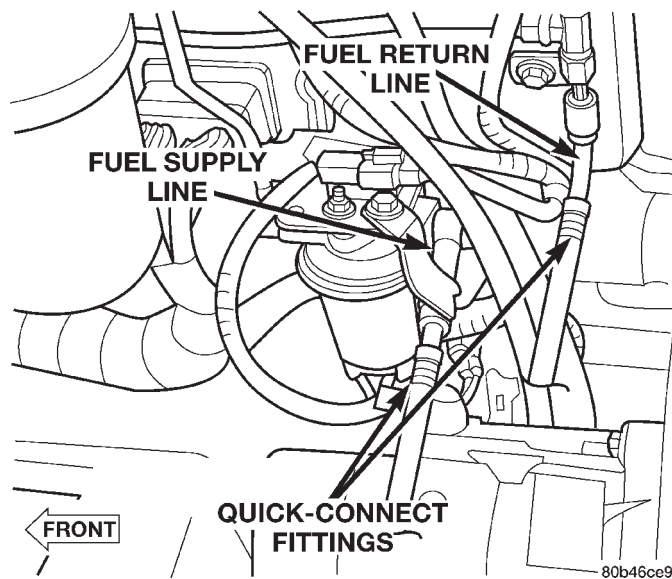

Fig. 22 Fuel Return and Supply Line Quick-Connect Locations
(10) Locate and disconnect fuel supply line quick-connect fitting at left-rear of engine (Fig. 22). After disconnecting line, plastic clip will remain attached to metal fuel line at engine. Carefully remove clip from metal line. Snap same clip into fuel supply hose.
(11) Install Special Rubber Adapter Hose Tool 6631 (3/8") into ends of disconnected fuel supply line.
(12) Install transducer from PEP module to brass "T" fitting on tool 6631.
(13) Hook up DRB scan tool to transducer.
(14) Start engine and record vacuum reading with engine speed at high-idle (high-idle means engine speed is at 100 percent throttle and no load). The fuel restriction test **MUST** be done with engine speed at high-idle.
(15) If vacuum reading is **less** than 6 in/hg. (0–152 mm hg.), test is OK. If vacuum reading is **higher** than 6 in/hg. (152 mm hg.), restriction exists in fuel supply line or in fuel tank module. Check fuel supply line for damage, dents or kinking. If OK, remove module and check module and lines for blockage. Also check fuel pump inlet filter at bottom of module for obstructions.